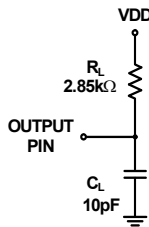

FIGURE 4. EQUIVALENT LOAD CIRCUIT
- 11. During characterization,  $t_{DISABLE}$  is measured from the release point with a 10pF load (see Figure 4) and the equivalent timing using the AD7440/450A loading (25pF) is calculated.